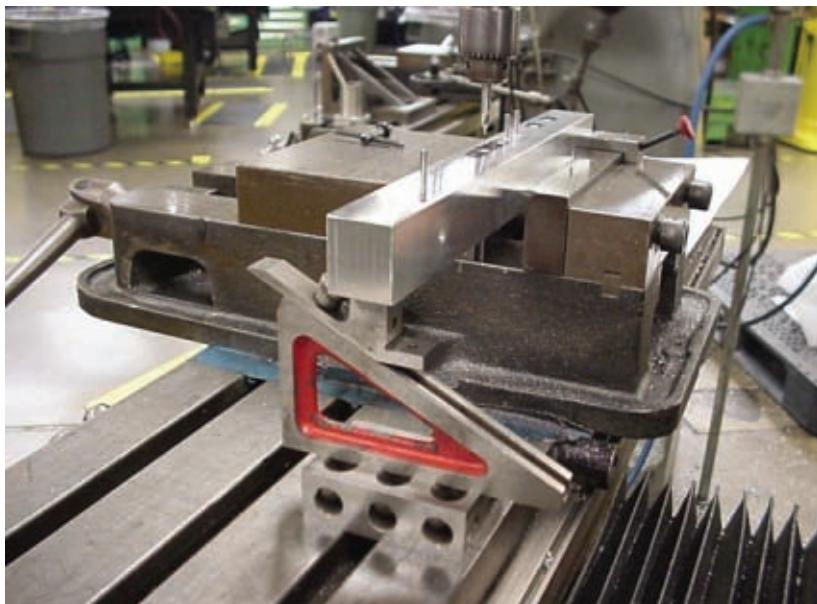

Figure 2-8 A planer gage is used to quickly add stability to this setup.
8. Aim for stability in your setups. (see Fig. 2-8)